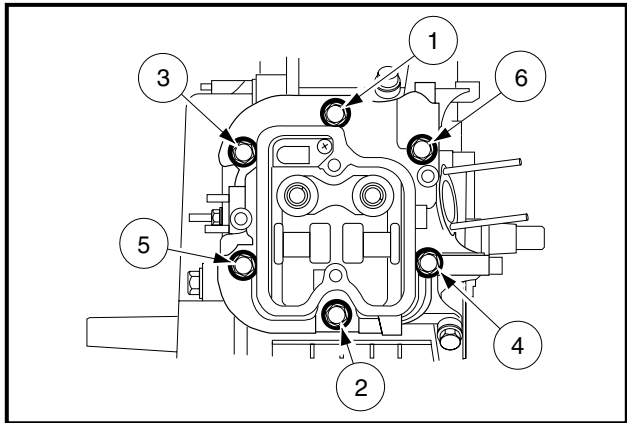

Figure 13-37 Cylinder Head Bolt Tightening Sequence
6. Using a torque wrench, tighten the six bolts in the sequence shown (Figure 13-37, Page 13-20).